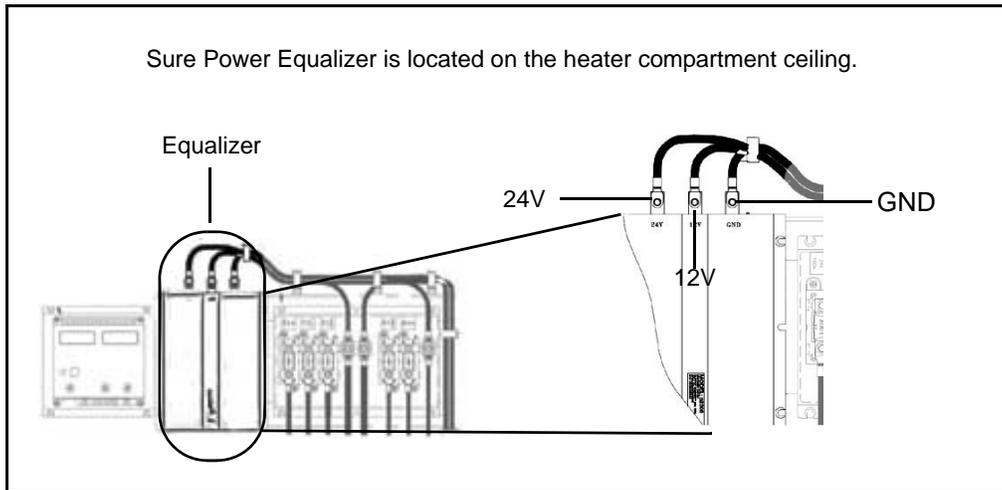

Figure 1-2 Orion V Sure Power Equalizer Location
3. Reference mark equalizer cable connections. **See Figure 1-2.**
2. Install equalizer onto mounting area (See **Figure 1-2**) using the following replacement hardware:
3. Install equalizer connections to the referenced marked positions and torque to 110 inlbs (12.4 NM). **See Figure 1-2.**